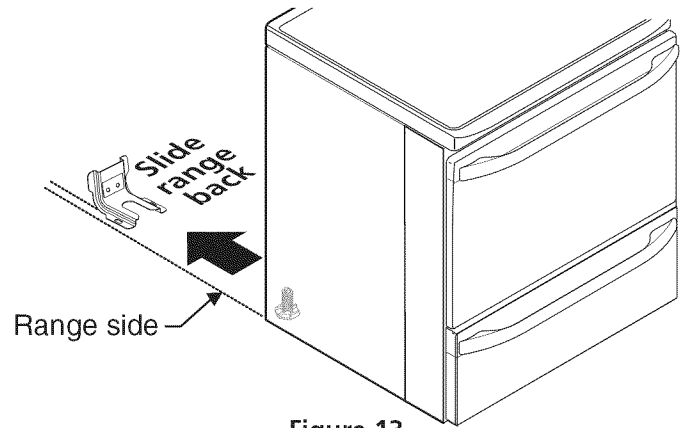

Figure 13
2. Place a level on the rack. Take 2 readings with the level placed diagonally in one direction and then the other. Level the range, if necessary, by adjusting the 4 leg levelers with a wrench (see Figure 13).